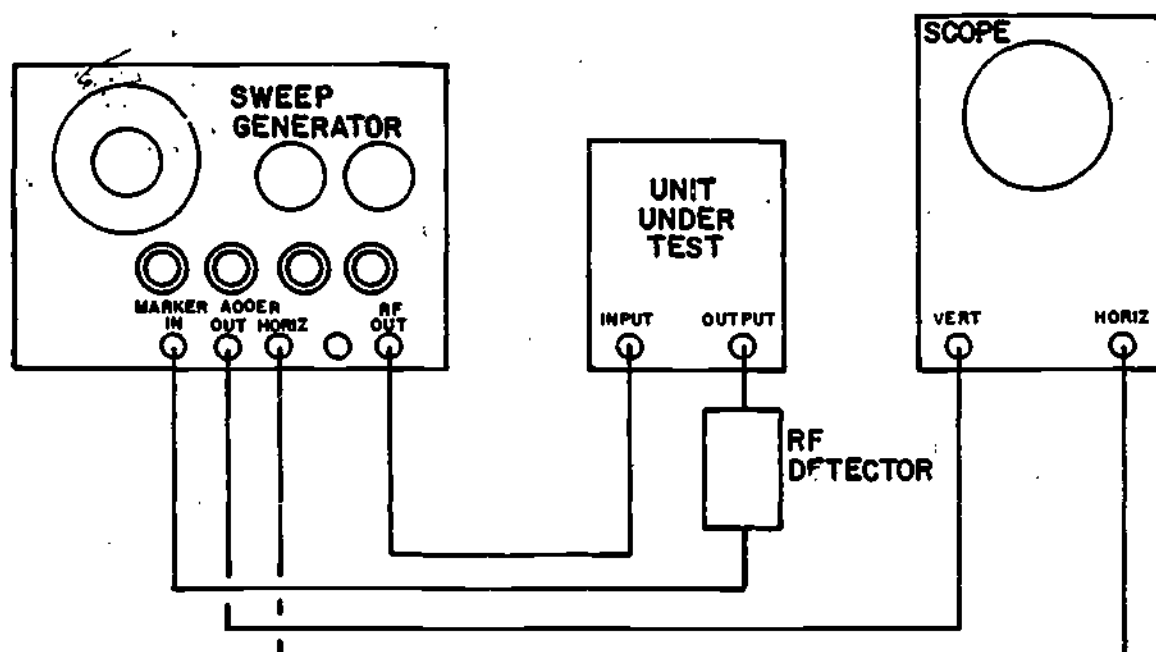

Figure 1
5. Connect the equipment as shown in Figure 1. Connect the RF output from the sweep generator between Pin #3 and circuit common of the 1st IF amplifier PCB.